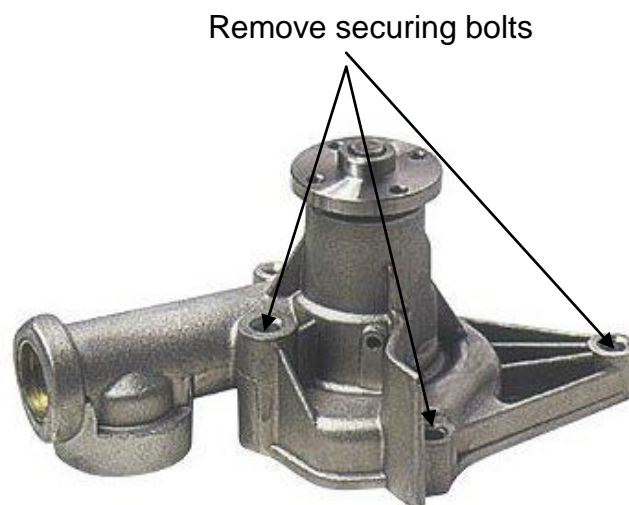

Fig. 16
- Slacken off both the generator mounting bolts (A).
- Loosen and remove the pump securing bolts from the pump (Fig. 16 Next page).